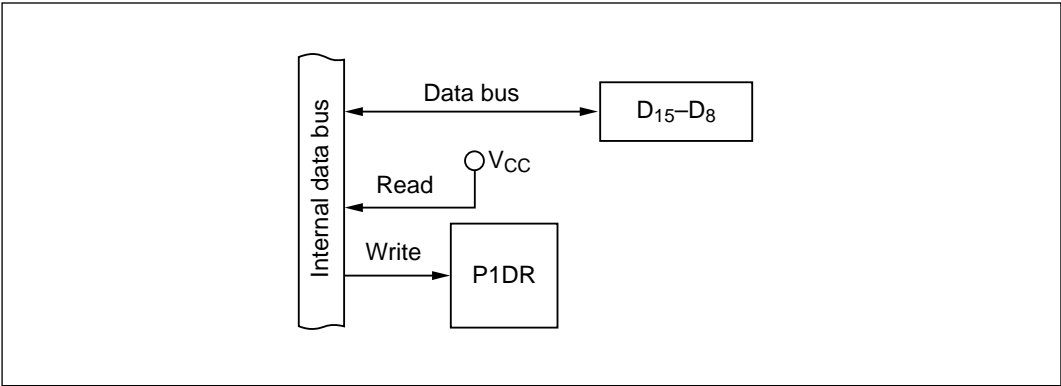

Figure 10-5 Data Bus: D₁₅ to D₈ (Modes 1 to 6)
(1) Data Bus (Modes 1 to 6): Figure 10-5 shows a block diagram illustrating the data-bus function. Table 10-4 indicates register read/write data. When port 1 operates as a data bus, the values in the port 1 data register (P1DR) have no effect on the bus lines. When read, P1DR returns all 1s.